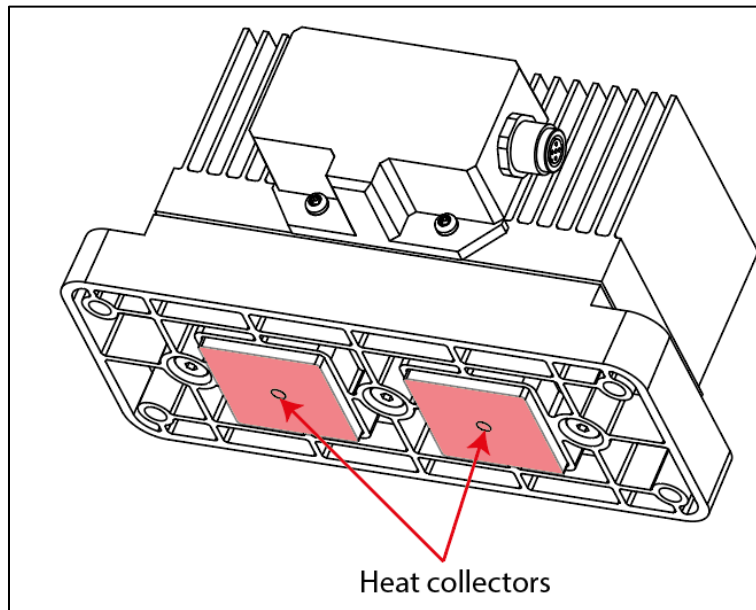
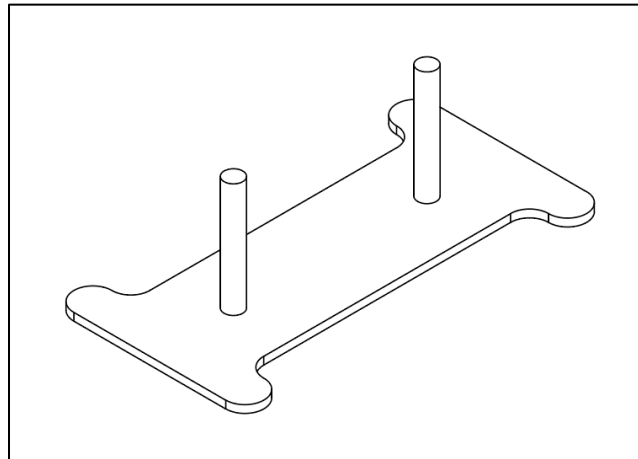

Figure 3.- Bottom view of the InduEye® TG Duo module
Figure 10.- Weldable mounting kit accessory fixing plate MEP-0008 – Optional accessory
- It is recommended to install the module, if possible, without any accessories and the heat collectors in direct contact with the hot surface to obtain higher thermal efficiency and more electrical energy as shown in Figure 3.
NOTES	<ul style="list-style-type: none"> <li>• Do not install the product in a location with a corrosive atmosphere. If this cannot be avoided, ensure there is adequate ventilation.</li> <li>• When installing the InduEye® TG Duo, make sure that the heat collectors have good contact with the hot surface and there are no gaps present to avoid poor performance of the module (Figure 3).</li> </ul>
In order to achieve a higher thermal efficiency and to obtain more electrical energy from the module, **it is recommended to install the module without any accessories as shown in Figure 3 only in hot flat surfaces**, by anchoring the module using the 4 holes available on the plastic base to insert 4 fixing screws as show in Figure 5.
- When installing the InduEye® TG Duo, make sure that the heat collectors have good contact with the hot surface and there are no gaps present to avoid poor performance of the module (Figure 3).
If it is not possible to mount the module as described in section 3.1.1 to obtain a higher thermal and electrical efficiency, use the optional accessory shown in Figure 10, which allows the heat collectors to be in direct contact with the hot surface. No drilling on the surface is required but welding instead.
- Fixing plate MEP-0008 (AISI304) – 2 units (Figure 10). (See accessories catalogue MUSPAI)
<p>! NOTES</p>	<ul style="list-style-type: none"> <li>• Mounting in flat surfaces with this accessory requires arc welding on the surface. Check compatibility between materials.</li> <li>• When installing the InduEye® TG Duo with the mounting accessory (Figure 10), make sure that the heat collectors have good contact with the hot surface and there are no gaps to avoid the poor performance of the module (Figure 3).</li> </ul>